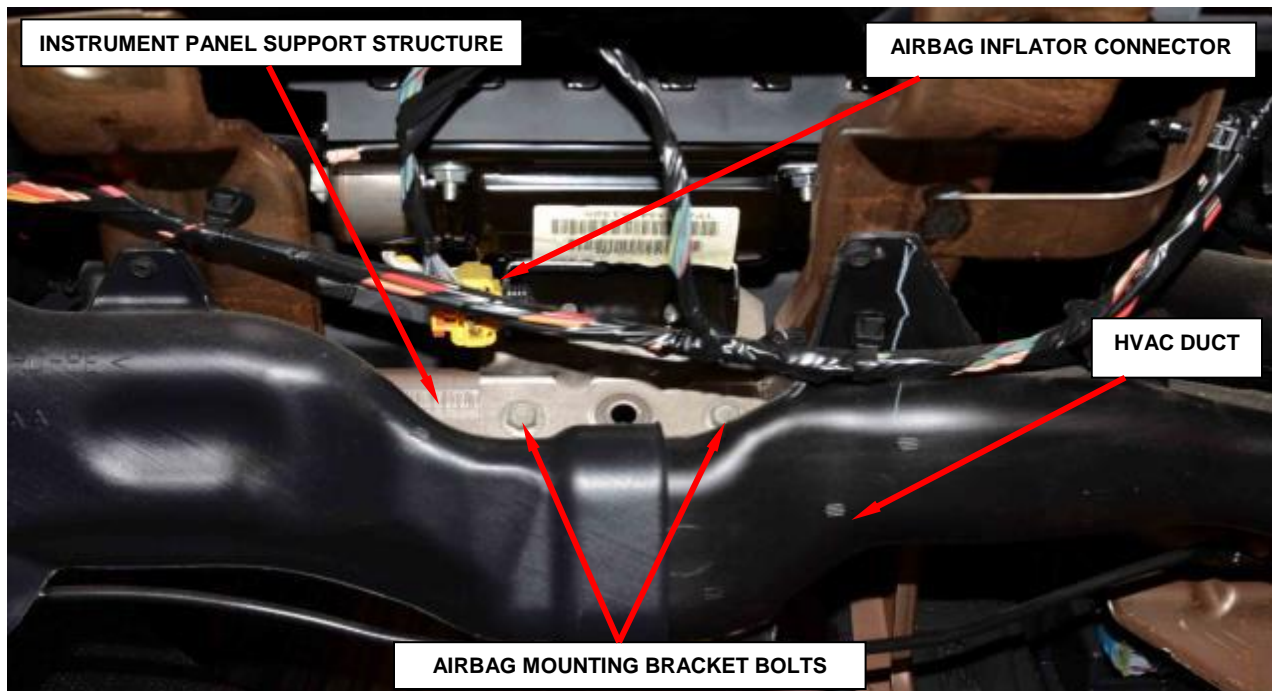

Figure 86 – Instrument Panel Mounting Bracket
33. Remove and save the two bolts that secure the passenger airbag bracket to the instrument panel support structure (Figure 86).
34. Disconnect the instrument panel wire harness connector from the airbag inflator pigtail connector on the right side of the airbag mounting bracket (Figures 86 and 87).